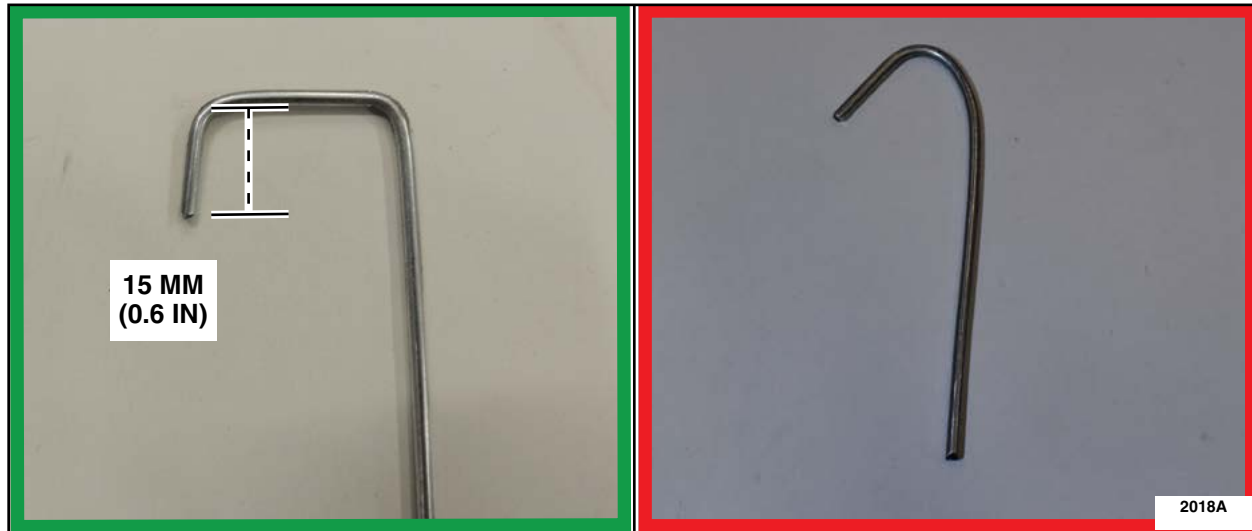

FIGURE 1
1. Locally obtain a wire coat hanger. Fabricate a rear differential fluid level dip stick 15 mm (0.6 in) in length as seen below. See Figure 1.